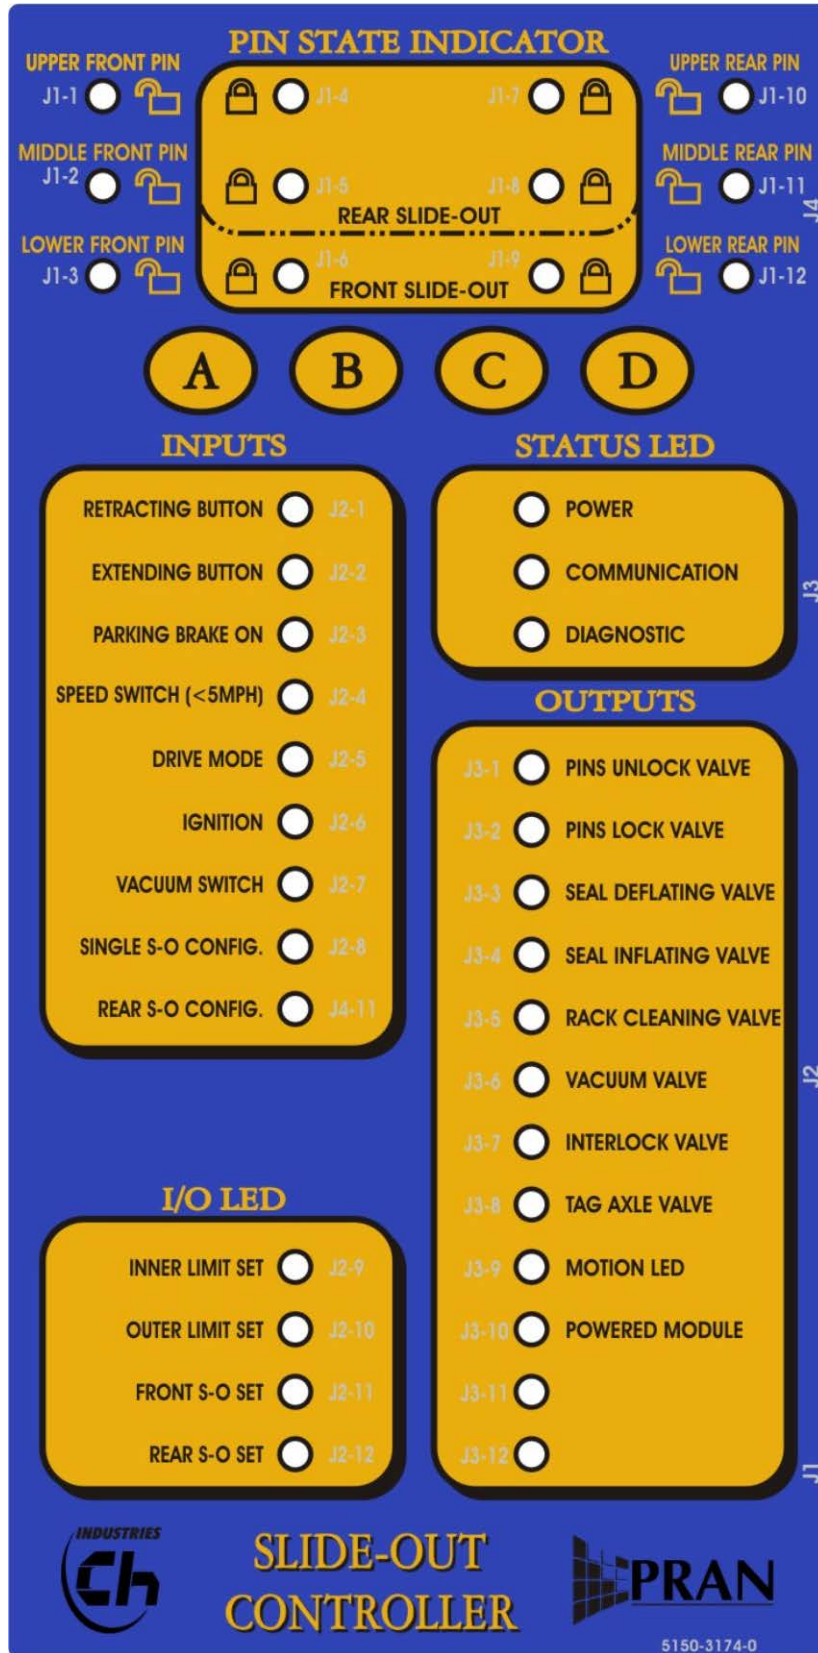

FIGURE 21 : SLIDE-OUT LOGIC CONTROLLER INTERFACE DISPLAY
9. When the retraction procedure is completed, if the parking brake cannot be released to move the vehicle, verify that at least one pin is locked on each slide-out. To do so, check the lights (12) on the "PIN STATE INDICATOR" zone of the logic controller interface display (refer to figure 21). A light next to all padlocks is used to identify the state locked or unlocked of the pins. For the rear slide-out, take note that only 4 pins are used in the upper section of the pin state indicator zone. With the ignition key to the "ON" position, verify if at least one pin locked light is "ON". Otherwise, go back to step 7 of this section to manually lock all the pins until all pin locked lights go "ON".
- C) Verify if all the pins are unlocked with the ignition to the "ON" position. To do so, check the lights on the "PIN STATE INDICATOR" zone of the logic controller interface display (refer to figure 21). A light next to all unlocked padlocks is used to identify the state unlocked of the pins. For the rear slide-out, take note that only 4 pins are used in the upper section of the pin state indicator zone. If at least one light is off, that means all the pins are not unlocked and it will not be possible to manually move the slide-out. In this case, restart the engine and make sure the air pressure is 110 PSI minimum on the auxiliary air pressure gauge (figure 4)